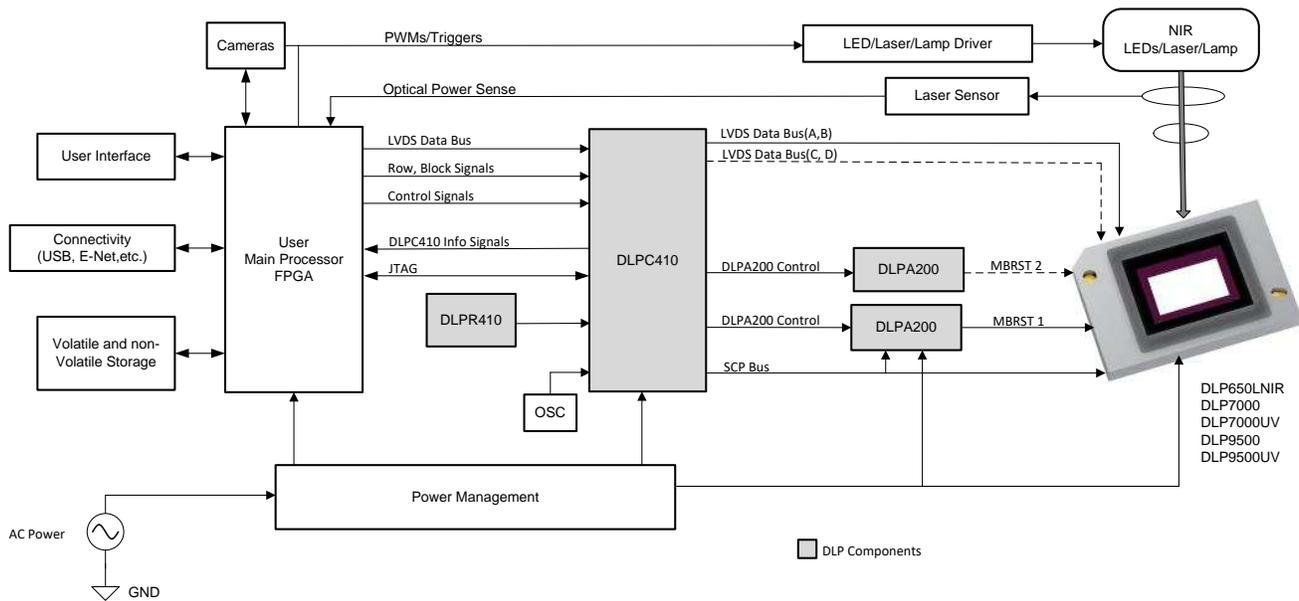

图 22. DLPC410 Application Example Block Diagram
A typical embedded system application using the DLPC410 controller is shown in 图 22. The DLPC410, the DMD, and their associated DLP components do not specifically determine the application in which the components are used - customer applications and use cases may vary widely, from Digital Image Lithography to 3D Printing to 3D Scanners using Structured Light. The DMD is capable of being used with multiple illumination source types, from Lasers and LEDs to wide band wavelength mercury halide lamps. The DLPC410 supported DMDs cover applications utilizing ultraviolet (UV), visible, and/or near-infrared (NIR) wavelengths. The duration of each binary pattern displayed on the DMD is totally under control of the Applications Processor. The displayed patterns could be strictly binary patterns or could be bit weight exposures of varying durations representing
In 图 22, the MBRST 2 signals and the C, D LVDS Data buses are shown with dashed lines to indicate that some DMDs do not require these signals to be used. TI's Reference Design and Evaluation Modules leverage a DLPC410 Controller Board which supports all 5 of the DLPC410 supported DMDs. The performance differences for each application are determined by which DMD Board is plugged into the Controller Board. This provides a single DLPC410 design platform which can then be used for multiple customer SKUs within an application platform for product segmentation purposes.